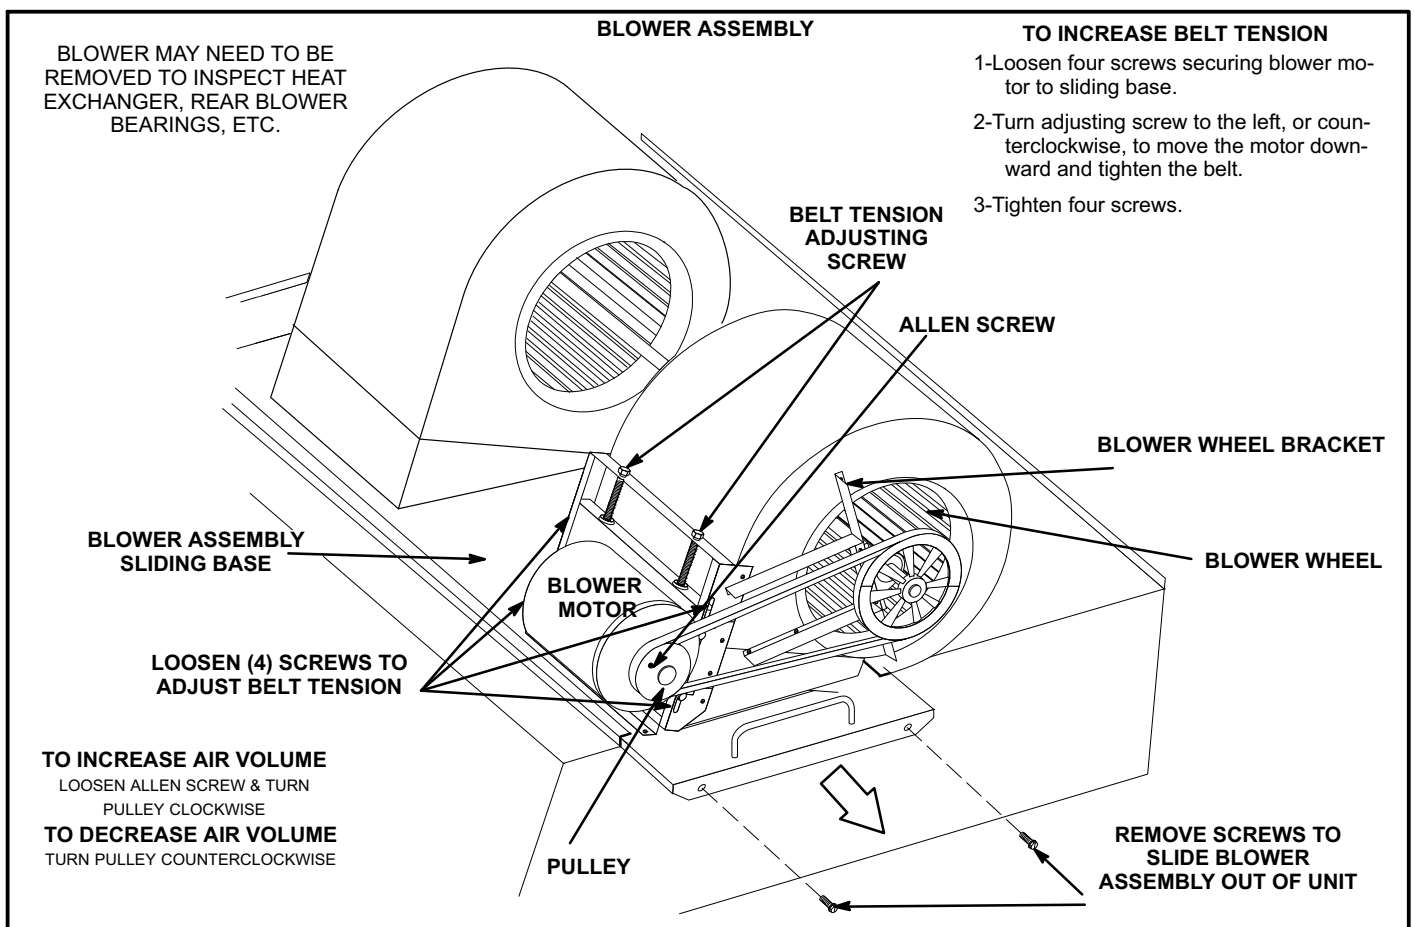

FIGURE 10
The blower compartment is located between the evaporator coil and the compressor / control section on the opposite side of the condenser coil. The blower assembly is accessed by disconnecting the blower motor wiring (and all other plugs) and removing the screws on either side of the sliding base. The base pulls out as shown in figure 10.
4. The blower RPM can be adjusted at the motor pulley. Loosen Allen screw and turn adjustable pulley clockwise to increase CFM. Turn counterclockwise to decrease CFM. See figure 10. Do not exceed minimum and maximum number of pulley turns as shown in table 5.
- 5- The RPM can be adjusted at the motor pulley. Loosen Allen screw and turn adjustable pulley clockwise to increase RPM. Turn counterclockwise to decrease RPM. See figure 10.
1. Loosen four screws securing blower motor to sliding base. See figure 10.